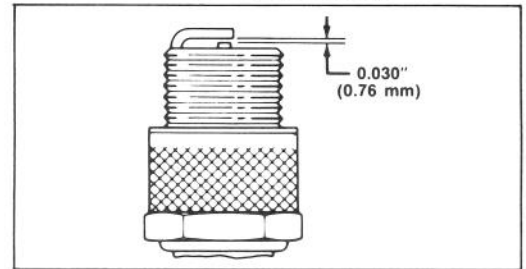

Figure 29
REPLACING SPARK PLUG (Fig. 29)
3. Set air gap between electrodes of new spark plug at 0.030 of an inch (0.76 mm) (Fig. 29). Next, install spark plug in cylinder head. Tighten plug to 15 ft-lb (20.4 N·m). If torque wrench is not used, tighten plug firmly.